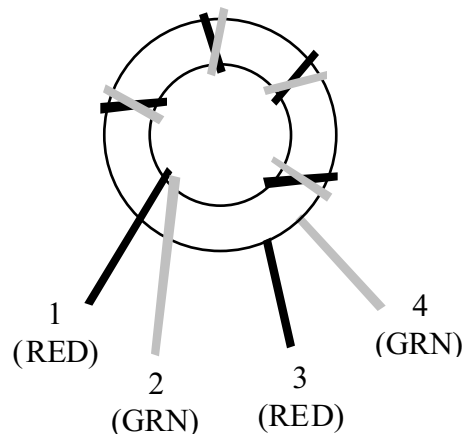

Figure 8-5
T4 uses a *bi-filar* winding, which means that two wires are wound on the core together. The wires for the two windings will be twisted together (see Figure 8-5).
- ☐ Wind the twisted wires onto the 1/2" (12.7 mm) dia. ferrite core (FT50-43, dark gray), using 5 turns and covering about 85% of the core. Figure 8-5 shows how the winding should look.
- ☐ Separate T4's leads as shown in Figure 8-5. Strip and tin the leads. Be careful not to let the red and green wires short together.